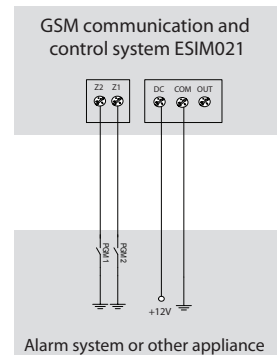

Fig. No. 2
3. Connect the circuit as shown in Fig. No.2. Power supply cables are connected last. When connecting ESIM021 to security central system power supply, usually the security system AUX output is used. Security system power supply must be disconnected before connecting ESIM021. The system should not be installed on metal surfaces.